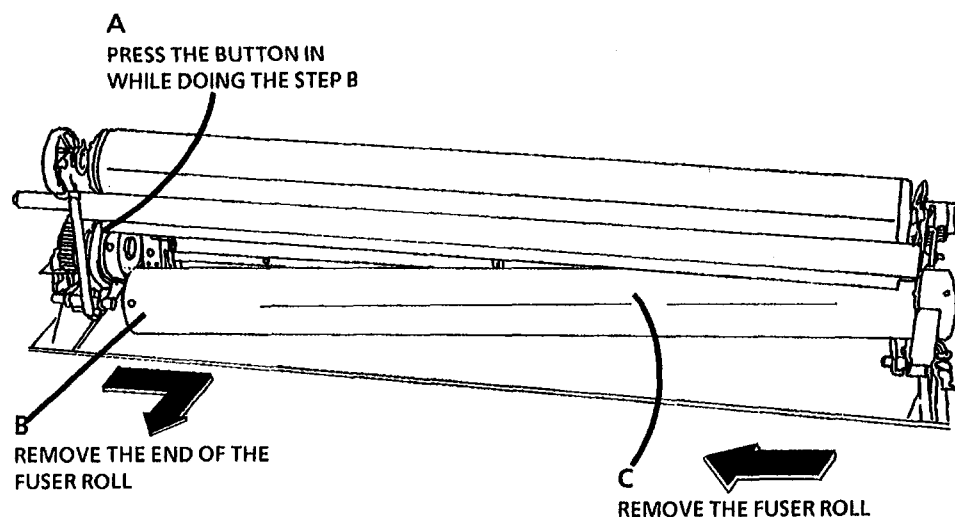

Figure 2. Remove the Fuser Roll
3. (Figure 2): Remove the Fuser Roll.